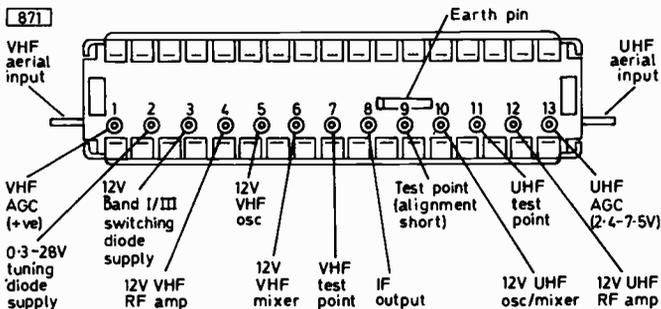

Fig. 1: ELC2000/ELC2060 u.h.f./v.h.f. varicap tuner pin connections. The output from the u.h.f. section of the tuner is coupled to the v.h.f. mixer.
This is obviously a mixing process. We mix the luminance signal (Y) with the colour-difference signals (B – Y, R – Y and G – Y) in order to get the correct colour in the display. Now this mixing can be done in several ways. It can be done by a simple resistor network before application of the signals to the c.r.t., or as in most recent chassis in an i.c., or alternatively, as in many hybrid chassis including the Pye ones, by feeding the Y signals to the c.r.t. cathodes and the colour-difference signals to the tube's control grids (see Fig. 1). This latter technique is for obvious reasons called colour-difference tube drive; the alternative arrangement, in which the tube is driven (almost always at its cathodes) by RGB signals, is for equally obvious reasons called RGB tube drive. Note that for a monochrome display the colour-difference signals simply disappear, the tube being driven by the luminance signal only.
Fig. 1: Methods of driving a colour tube. (a) Colour-difference drive, with the luminance signal (Y) applied to the three cathodes and the three colour-difference signals applied to the grids. The tube then carries out the RGB matrixing, the phosphor screen being activated by the three primary-colour signals. (b) RGB drive. In this case matrixing is carried out prior to the tube, the RGB signals being applied (almost always) to the three cathodes.